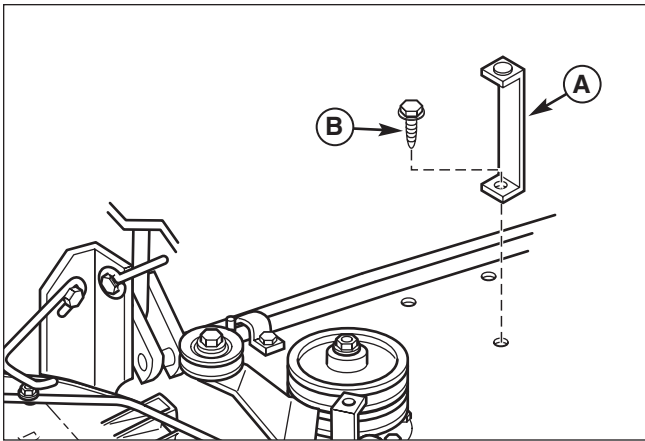

Figure 13. Install Up-Stop
1. Install the up-stop (A, Figure 13) securing with 5/16-18 x 5/8 cap screw (B) as shown.